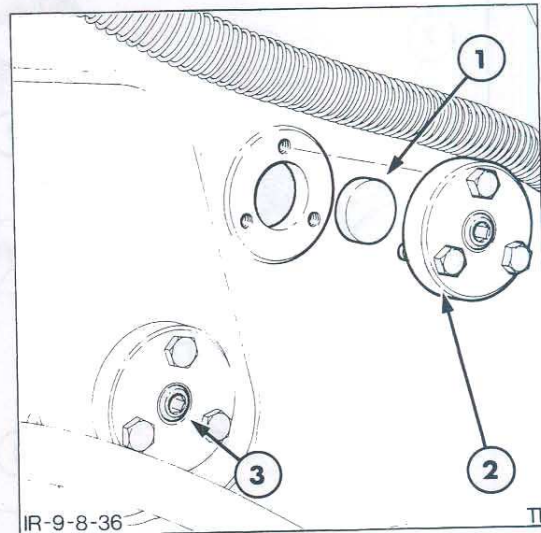

Figure 36
2. Remove the four wear button retaining caps and withdraw the buttons Figure 36.